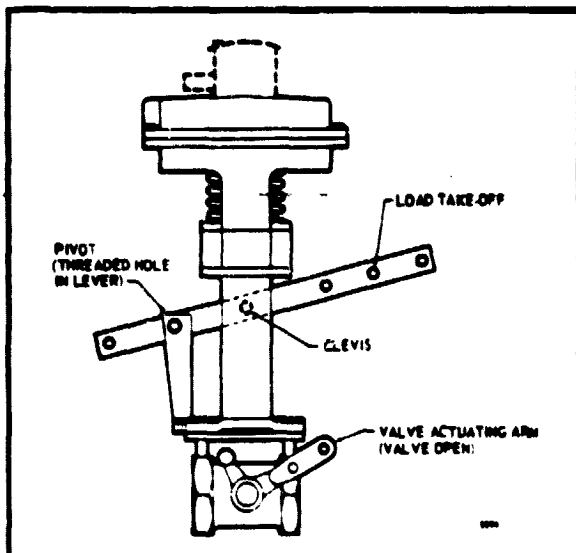
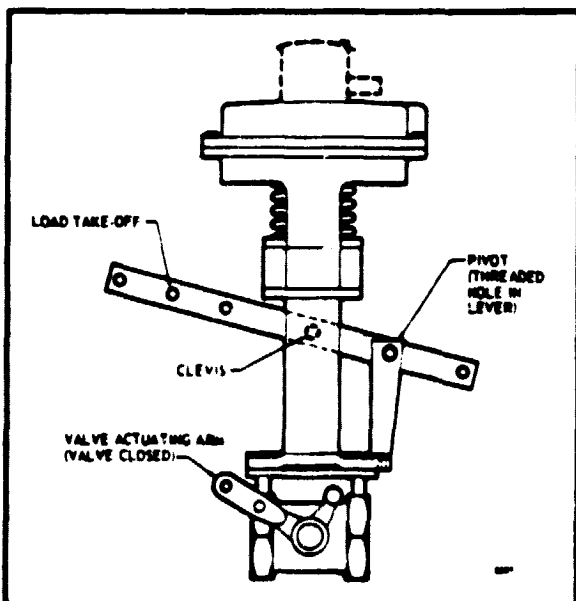

FIG. 7—RECOMMENDED "POWER OFF" POSITIONS OF MOTOR LEVER AND VALVE ARM FOR NORMALLY OPEN OPERATION.
FIG. 8—RECOMMENDED ARRANGEMENT FOR NORMALLY CLOSED OPERATION.
INSTALLING TYPE O3 AIR-O-MOTOR PNEUMATIC ACTUATOR AND Q524A LINKAGE ON V51E (SEE FIGS. 7, 8, 9).
If the V51 valve is intended to provide normally open, direct operation (valve open when pneumatic pressure off), the actuating arm points to the right, as in Fig. 7. For a normally closed system, the arm projects to the left as in Fig. 8. If it is necessary to field-convert the valve, remove only the cotter pin, washer and arm. Reverse the arm and re-install.
4. Mount the lever arm (13-3/4 inches) supplied with the motor so that the load take-off holes will be at the same end of the valve as the valve actuating arm. NOTE: Both motor lever and valve arm could be installed 180 degrees from the positions shown in Fig. 7 and 8, if more convenient. Use bushing hole at the clevis.